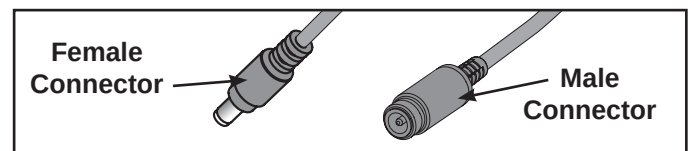

Figure 11
NOTE: The Power Cable (F) has a male and female connector at either end. Make sure the female end goes to the Monitor (AA) and the male end is at the base. See Figure 11.